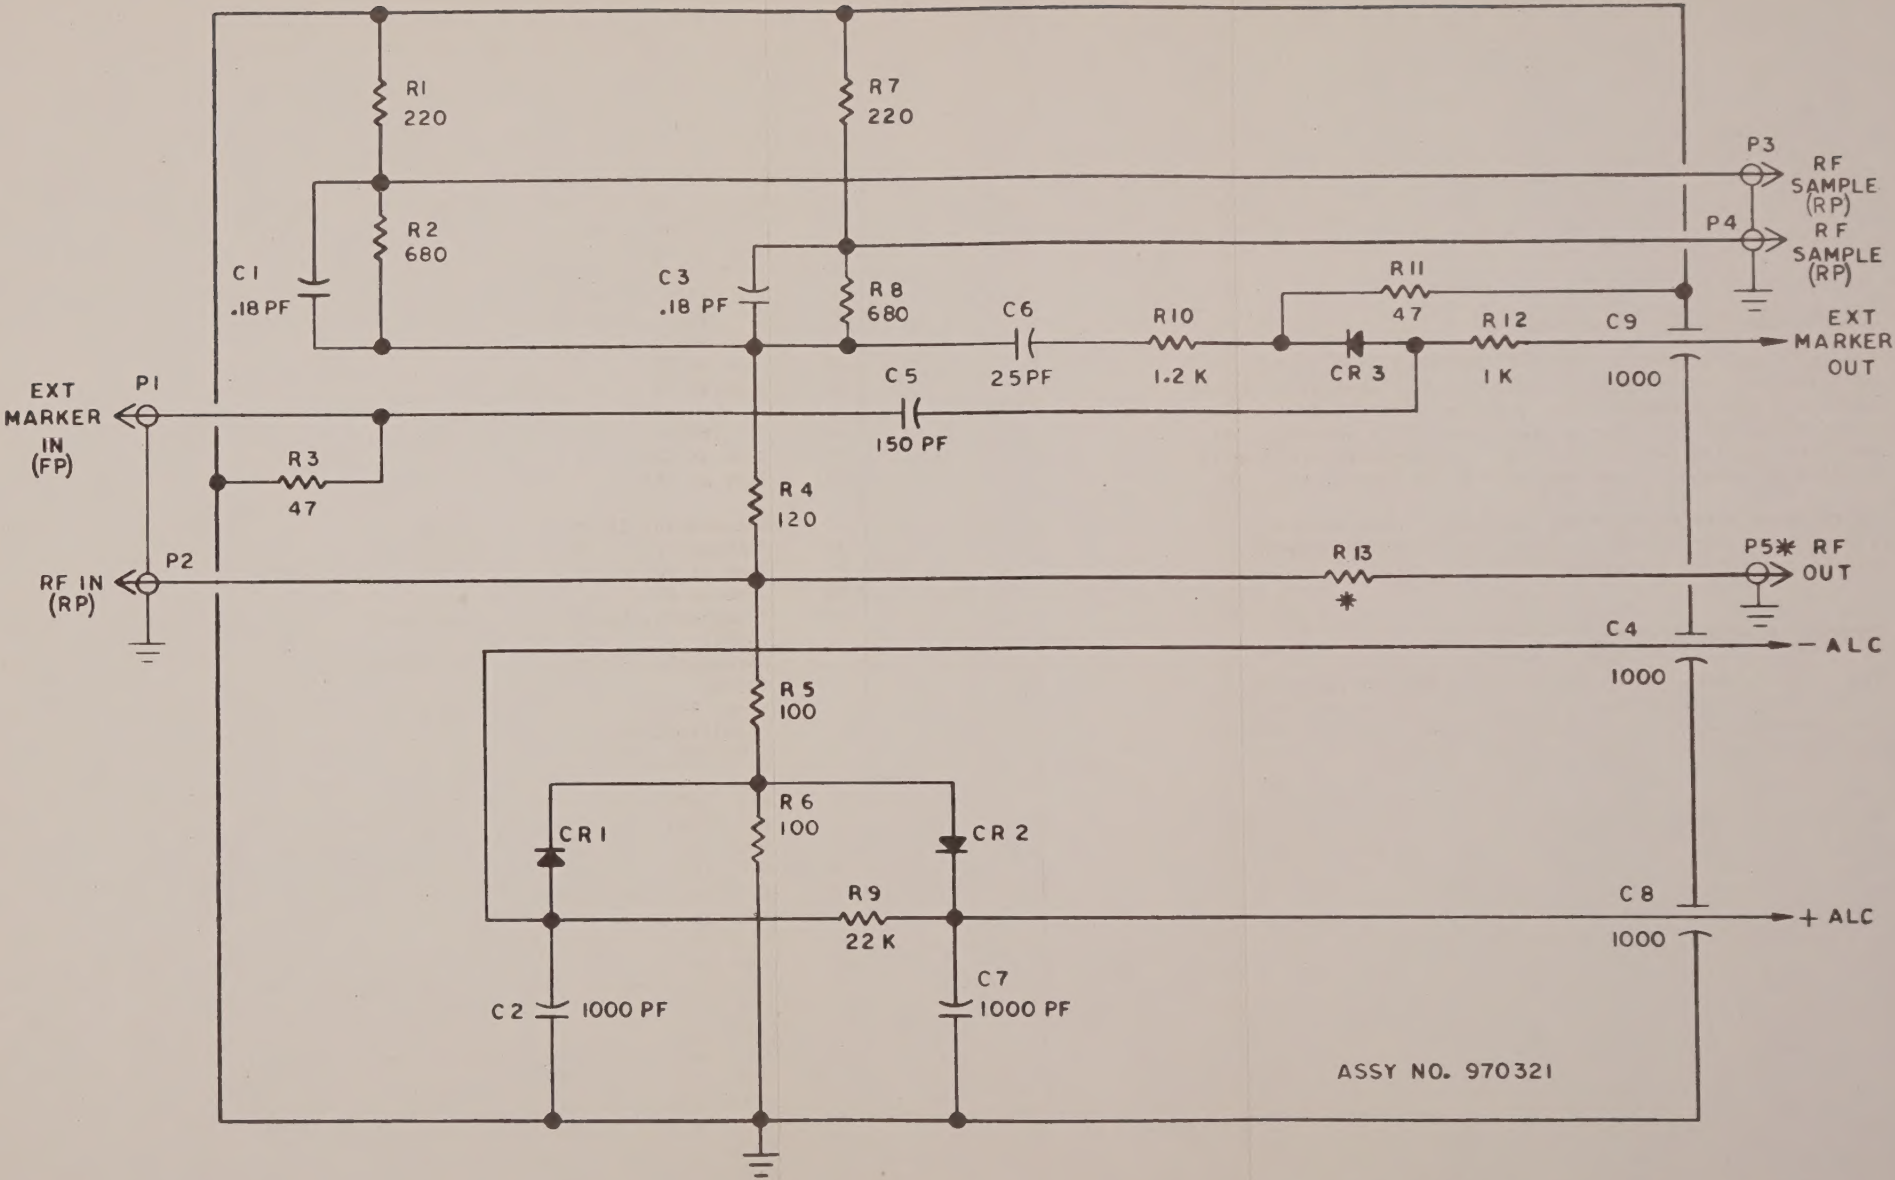

Figure 5-2. Monitor/Mixer Schematic Diagram
- c. Monitor Mixer Schematic Diagram Figure 5-2